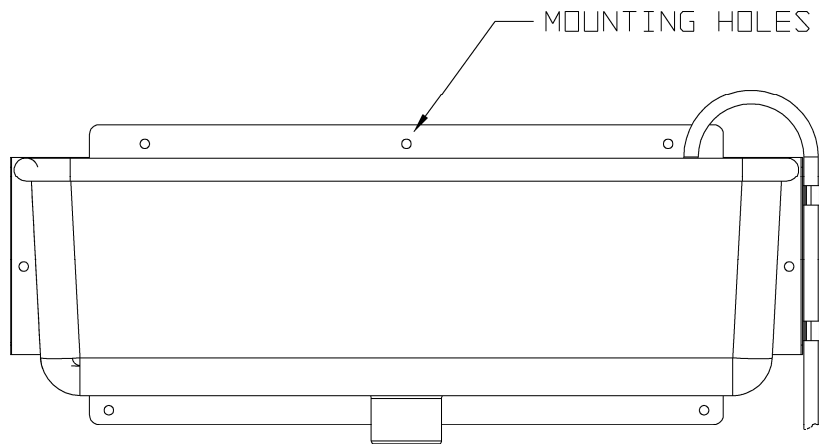

FIG1
2. Level the well for proper drainage. Hold in place. Use as a template - mark the hole locations on the mounting surface. **SEE FIG 1**